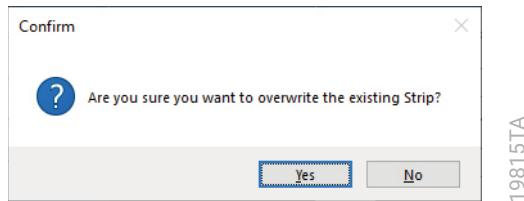

Figure 196. Confirm window to overwrite Strip data.
- Edit the information as outlined in 13.4.1 above to create a new Strip. If a new ID is entered, select **Save** to create a new Strip. If overwriting the existing Strip, select **Save** and the following message will appear (Figure 196).